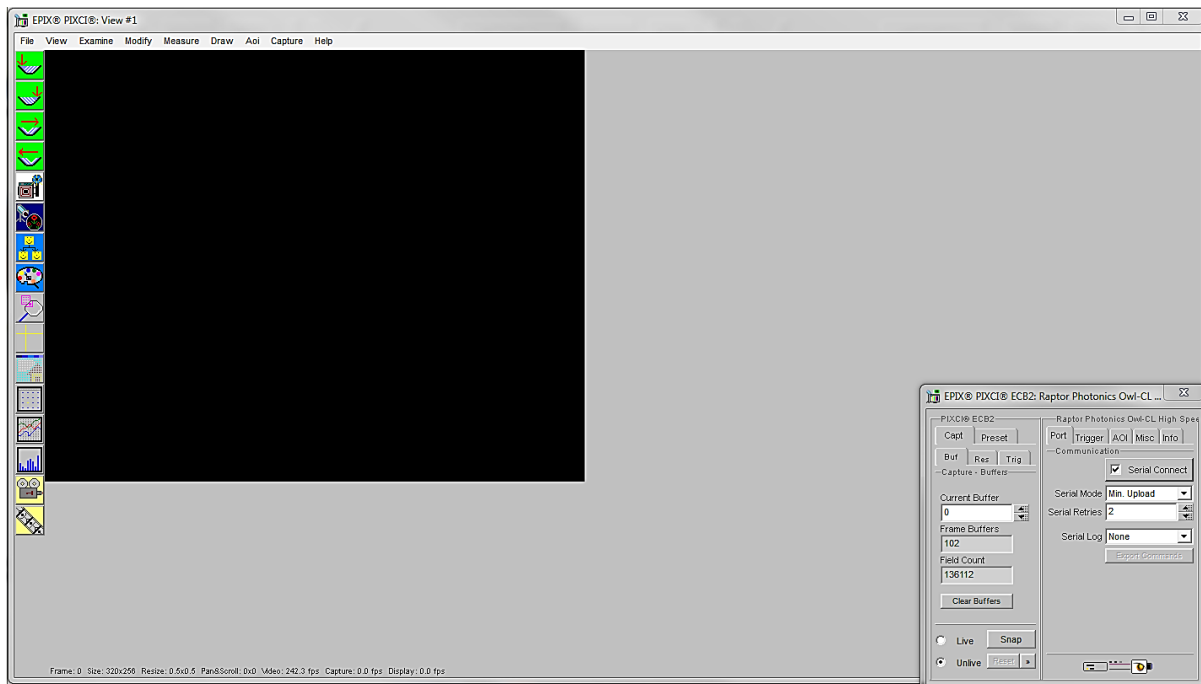

Figure 3: XCAP Camera Control Screen
5. Select Open and the viewing and control screens, Figure 3, will now open. Two windows should open (Figure), a viewing window (Left) and a control window (Right).